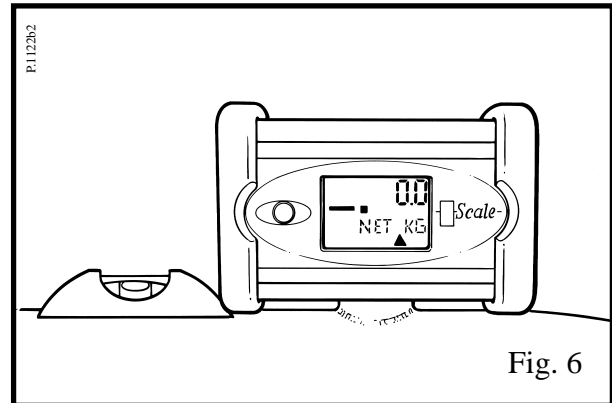

Fig. 6
Press the Scale operating button. (See fig. 6).
- **Note:** It is essential to carry out weighing operations with the Scale and jib end in the horizontal position. For Verified Scales only:- This is confirmed when the word 'tilt' is no longer displayed on the Scale. (See fig. 6).